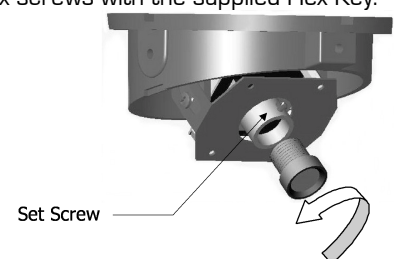

Figure 12: Changing Camera Lens
- Remove lens by loosening set screw, then turning lens counter clockwise, replace with new lens (Figure 12).